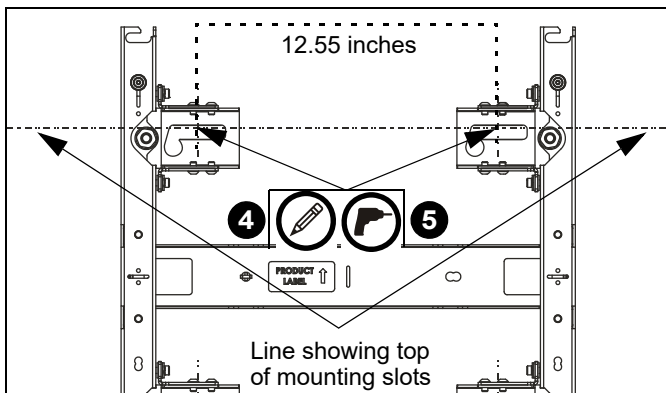

Figure 5
- Mark mounting holes in two top mounting slots along the horizontal line marked in Step 3 of **Assessing the Installation Site** section. (See Figure 5)
NOTE: The mounting holes are 12.55" apart on-center. (See Figure 5)
- Drill two pilot holes (see Table 1 for size) at each location marked in Step 4 (See Figure 5) and follow fastener information (appropriate for wall type) located in Table 1.